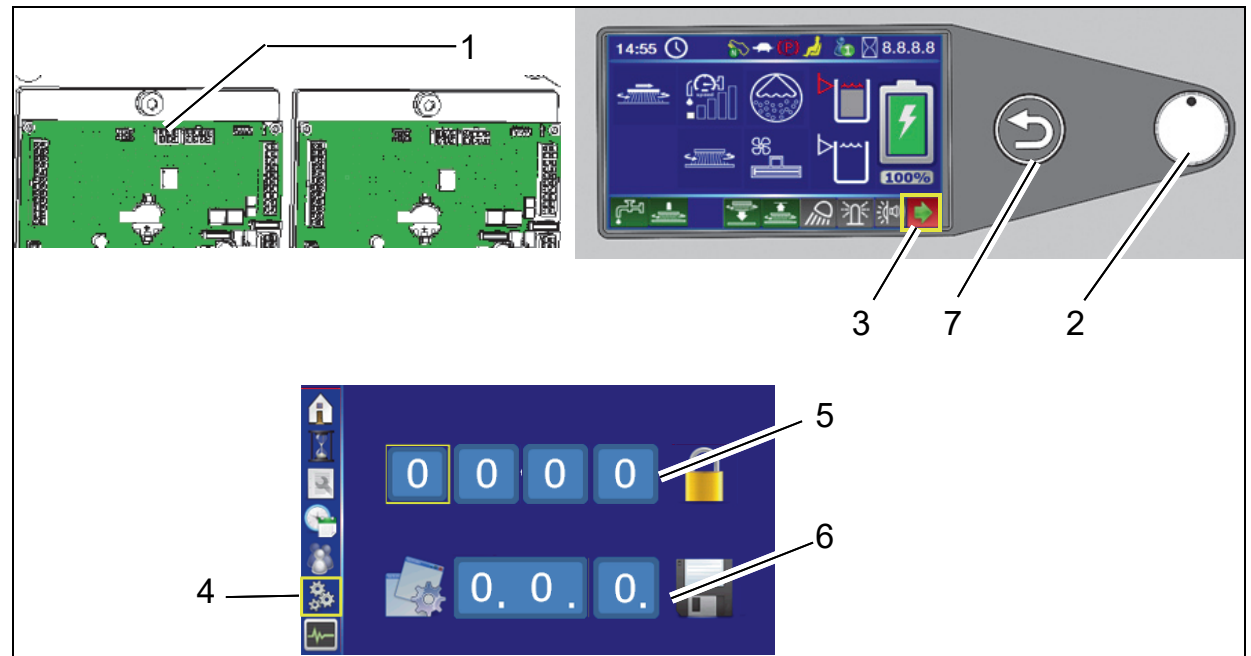

Fig. 7
Plug diagnostic connector into slot X20 of controller A1 (Fig. 7/1).
2. Select the arrow soft key (Fig. 7/3) on the control panel using the turn-push knob (Fig. 7/2) and press to access the sub-menu.
3. Select the configuration menu in the sub-menu (Fig. 7/4).
4. Enter the 4-digit code in the configuration menu at the top (Fig. 7/5):
In the configuration menu at the bottom (Fig. 7/6), set the value of the option and save by pressing the turn-push knob. After confirming the last digit, *OK?* appears. Press the turn-push knob again to save the value. Saved value is displayed in green.
If the value is not to be saved, exit menu using the return key (Fig. 7/7).